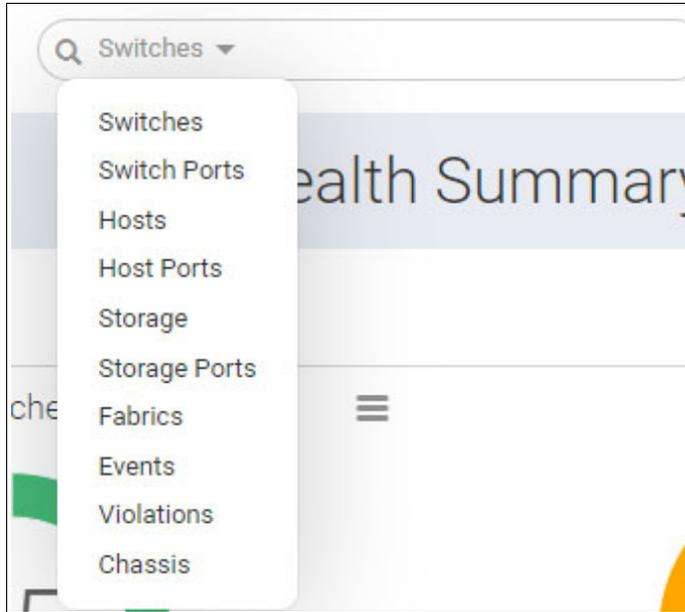

Figure 4-7 Global search
2. Global search: Performs a global search of SANnav. Click the magnifying glass icon to select the context on which to search from a list, and enter the search term in the field, as shown in Figure 4-7 on page 67.